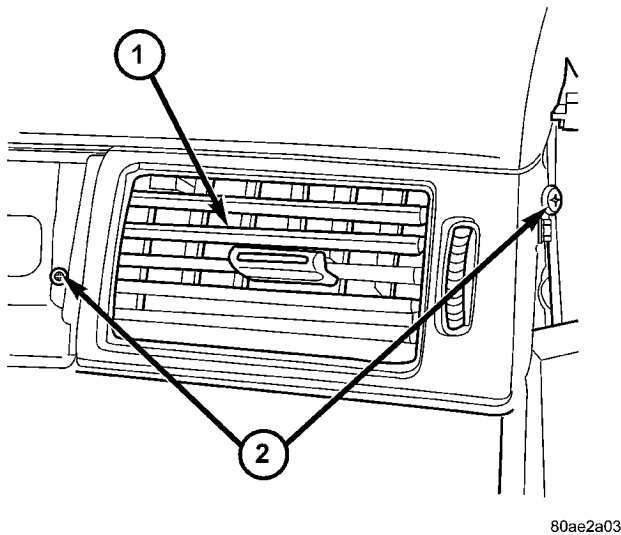

Fig. 4 Instrument Panel Outlet - Right Side Shown
(1) If servicing the right instrument panel air outlet, use a trim stick C-4755 or equivalent and gently pry the outer perimeter of the center trim panel from the right side of the instrument panel and remove the trim panel. If servicing the left instrument panel air outlet, remove the instrument cluster bezel (Refer to 23 - BODY/INSTRUMENT PANEL/CLUSTER BEZEL - REMOVAL).
(2) Remove the instrument panel end cap from the end of the instrument panel being serviced (Refer to 23 - BODY/INSTRUMENT PANEL/INSTRUMENT PANEL END CAP - REMOVAL).
(3) Remove the two screws that secure the instrument panel air outlet to the instrument panel and remove the outlet (Fig. 4).